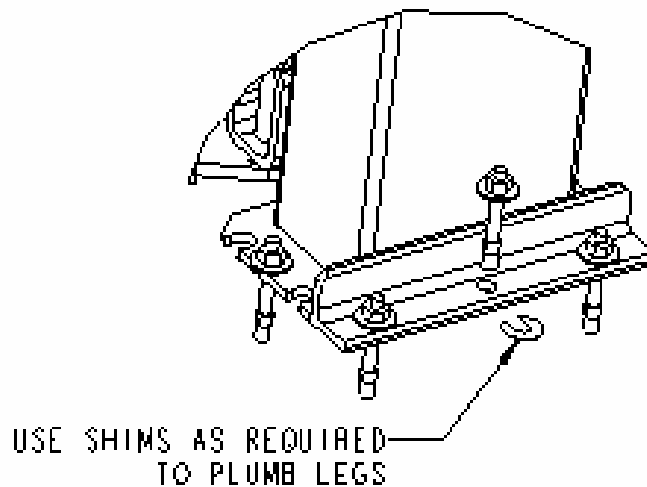

Figure 9
- F. Using a level, plumb the mainside leg both side to side and front to back. Shim the leg as necessary next to and on both sides of the anchor bolts, figure 9. If more than 1/2" of shimming is required, **do not** use the anchors and shims provided with the lift. Use longer anchors and fabricate larger shims from steel flat, 1/4" or 1/2" thick by 2", or more, wide.